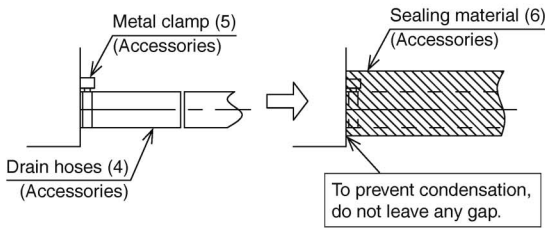

Fig. 6
- Be sure to use the included drain hose (4) and metal clamp (5).
In addition, insert the drain hose (4) all the way onto the drain socket, and tighten the metal clamp (5) in place at the base of the drain socket. (Refer to Fig. 6 and 8.)
- Apply the included sealing material (6) to the metal clamp (5) in the direction of the arrow starting at the base of the drain hose (4) to apply insulation. (Refer to Fig. 6 and 8.)